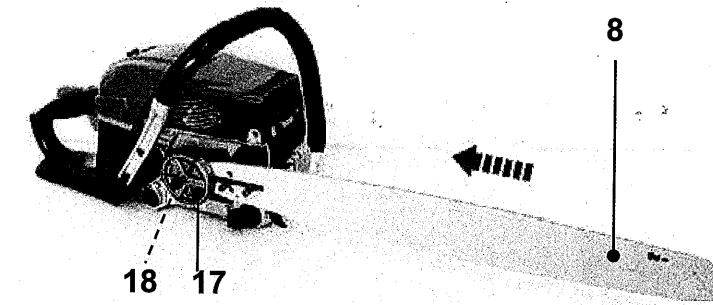

Fig. 3
5. Push the guide bar (8) to the left towards the drive sprocket (18) (behind the clutch (17)) (Fig. 3).